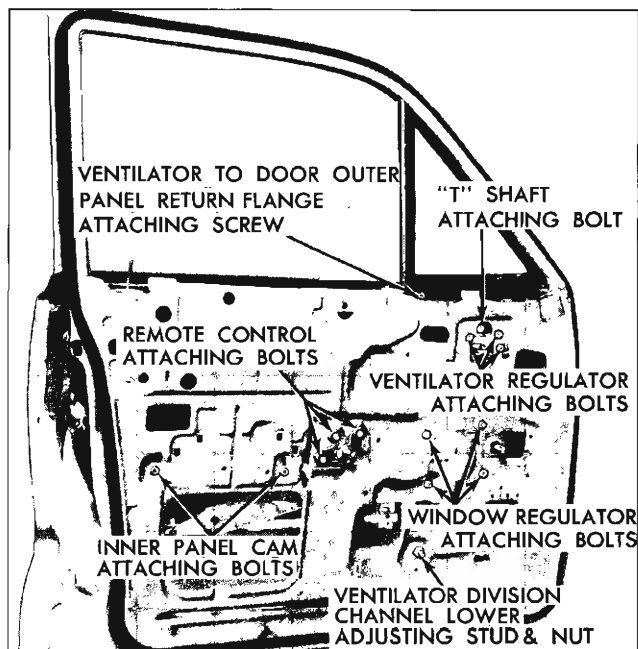

Fig. 3-29 Front Door Hardware Attachment
4. Remove ventilator division channel lower adjusting stud and nut (Fig. 3-29).
4. While supporting front edge of glass by hand, simultaneously lower window and tilt front edge forward and downward until rear leg of sash channel is above door inner and outer panels (belt line). Then, slide door window rearward to disengage lower sash channel from nylon rollers of regulator lift and balance arms and remove door window in-board of door upper frame (Fig. 3-29).
1. To adjust lower portion of ventilator division channel for proper alignment with window, lower door window and loosen ventilator adjusting stud nut. Turn adjusting stud in or out or position lower end of channel fore or aft as required; then tighten adjusting stud nut (Fig. 3-29).
3. The window inner panel cam is adjustable at the forward section and can be utilized to correct a rotated (cocked) front door window (Fig. 3-29).
4. Remove regulator attaching bolts and carefully remove regulator through large access hole in door inner panel (Fig. 3-29).